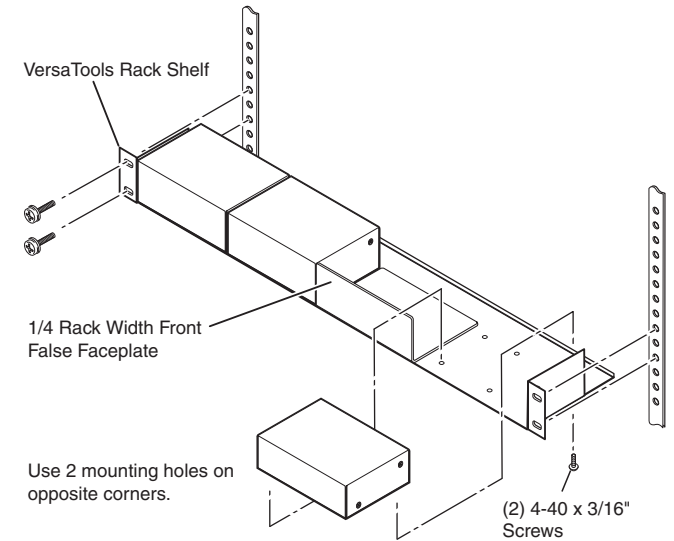
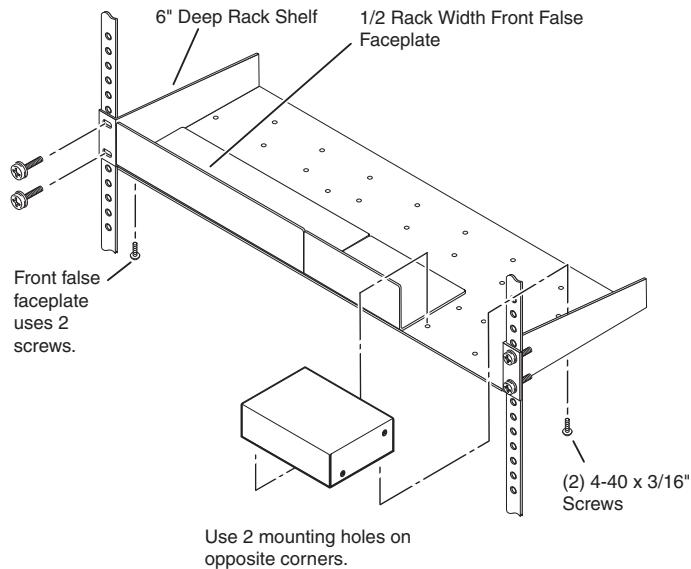

Figure 2-1 — Mounting a YCS 100 (with other units) on a VersaTools rack shelf
Figure 2-3 — Mounting a YCS on a 6-inch rack shelf
2. Mount the YCS 100 on the rack shelf, using two 4-40 x 3/16" screws in opposite (diagonal) corners to secure the unit to the shelf (see figures 2-1 and 2-2, on the next page, or figure 2-3 on page 2-4).